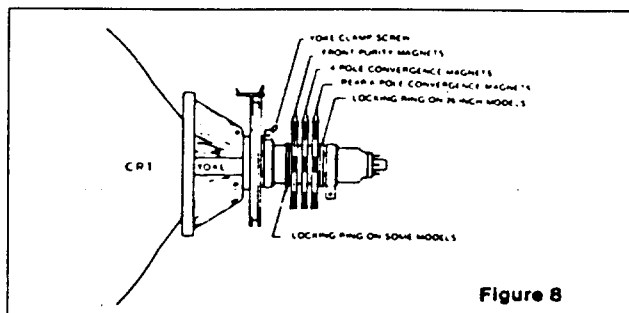

Figure 8
1. Loosen yoke retaining clamp (Fig. 8), remove adhesive material fixing wedges to CRT. Remove wedges completely and clean off dried adhesive from picture tube and wedges.
NOTE: Static convergence is achieved by four magnets located on the neck, nearest the base of the picture tube, Figure 8. The middle pair of magnetic rings are adjusted to converge the blue and red cross hatch lines. The rear pair of convergence rings (closest to the base of the picture tube) are adjusted to converge the magenta (blue/red) to the green cross hatch lines. Dynamic convergence is achieved by tilting the deflection yoke up-down and left-right.